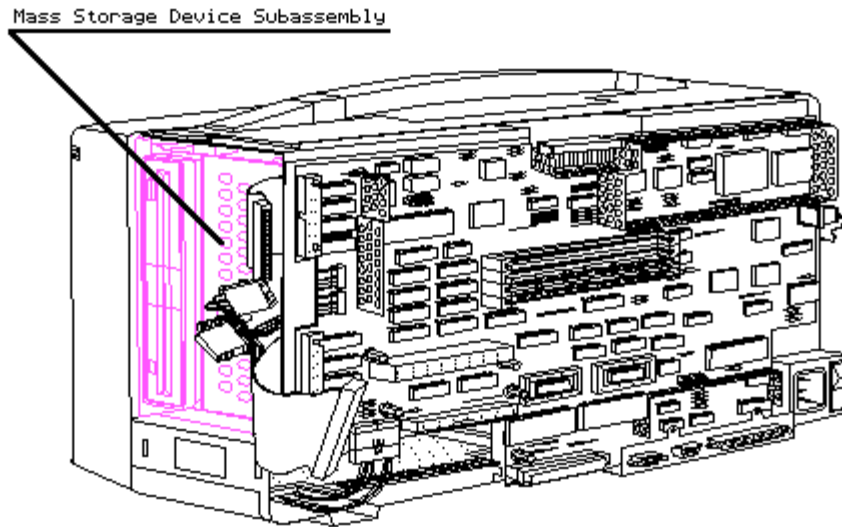

Figure 8-40. Mass Storage Device Subassembly Location
6. Locate the mass storage device subassembly shown in Figure 8-40.